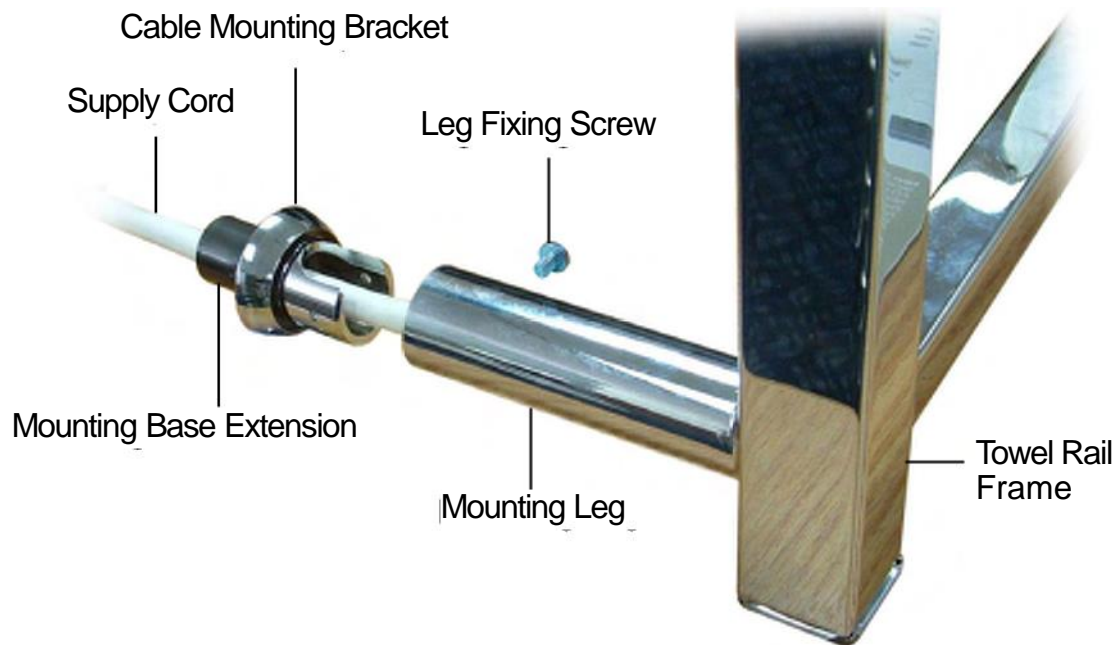

Figure 4: **Concealed Supply Cord Installation**
4. Feed the Supply Cord through the centre of the Cable Mounting Bracket (see Figure 4).